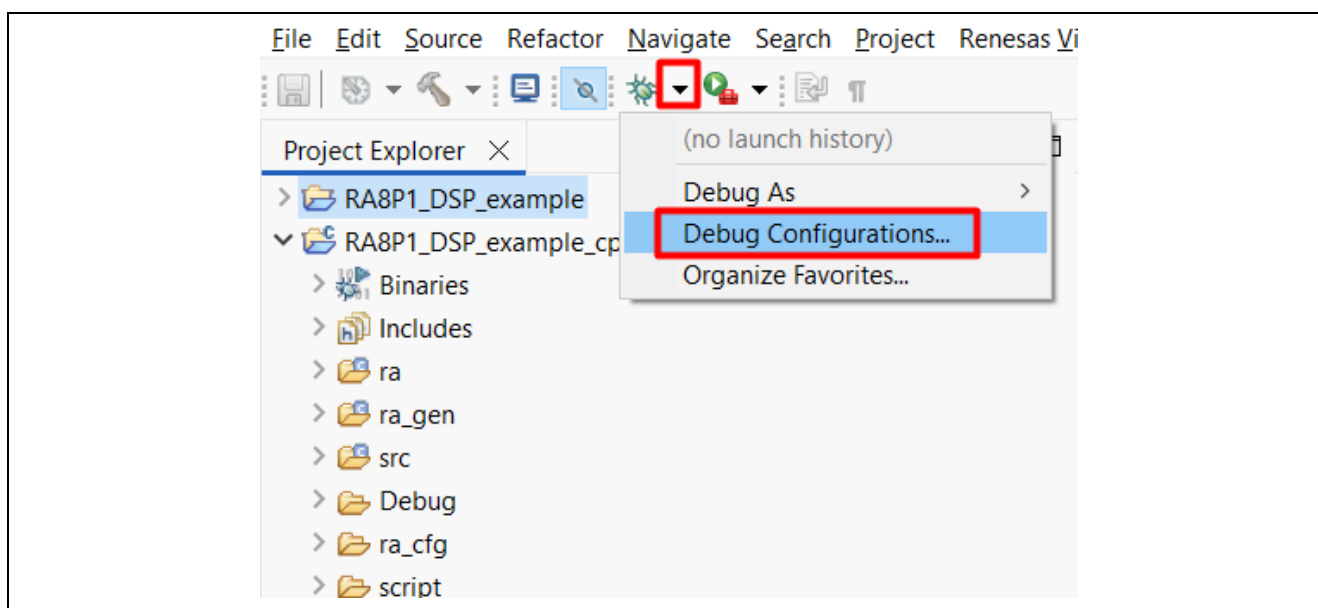

Figure 68. Example of Open Debug Configuration in DSP Example
1. Open Debug Configurations as shown in Figure 68.